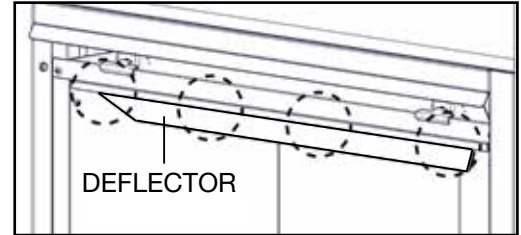

Fig. 1
- To ease assembly, remove the four hex head screws securing the deflector from inside the top front of the firebox (**Fig. 1**).